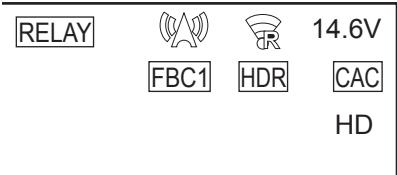

Fig. 1
- 2 Set the power switch to < | > (ON) and confirm following items.
- Level of the battery is sufficient in the status display in the control panel. (Fig. 1)